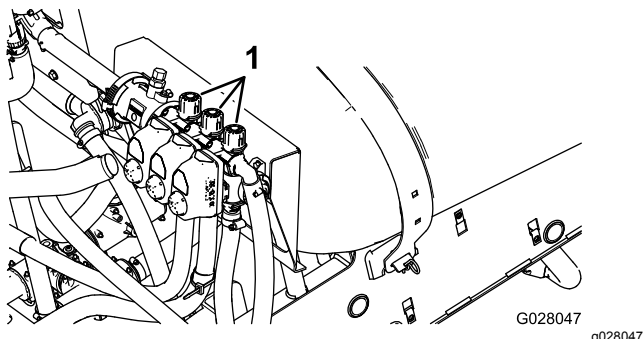

Figure 18
- Turn off the left section and adjust the section-bypass knob (Figure 18) until the pressure reading is at the previously adjusted level (typically 2.75 bar or 40 psi).
- Adjust the right section-bypass knob (Figure 18) until the pressure reading is at the previously adjusted level (typically 2.75 bar or 40 psi).
- Adjust the center section-bypass knob (Figure 18) until the pressure reading is at the previously adjusted level (typically 2.75 bar or 40 psi).